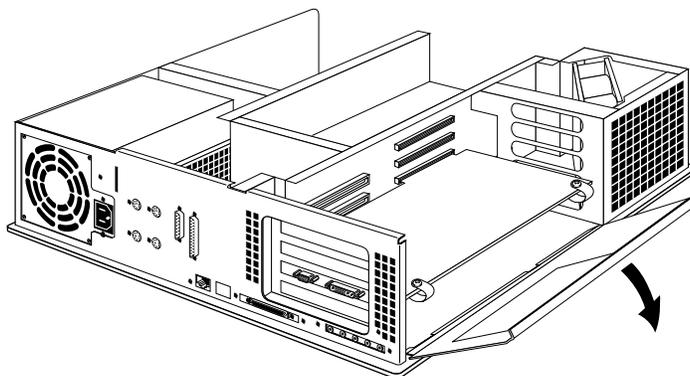

Figure 1-7 Opening the Metal Panel in Front of the Expansion Slots
1. Move the workstation or position yourself so that you are facing the expansion slots, as shown in Figure 1-7.